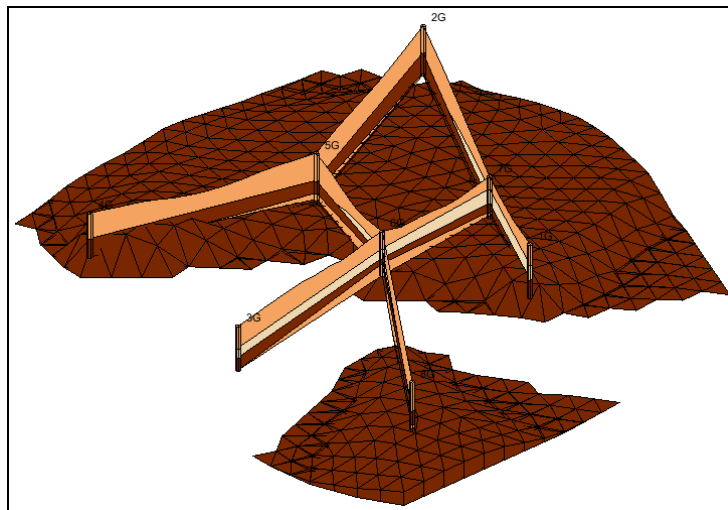

Figure 9 Silty_Clay 1 solid created with the conceptual model
2. In the “solids (3)” folder, turn on the “Silty_Clay 1” solid. Notice the area that it covers (Figure 9).